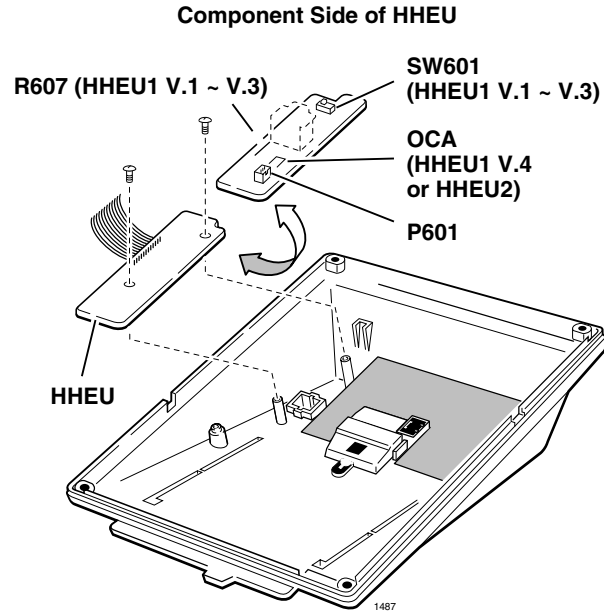

Figure 11-32 HHEU Installation
**Note** For this to function properly with headsets, make sure the speaker OCA strap or R607 is cut on the HHEU PCB and the HHEU strap is cut on the telephone. (See Figures 11-32, 11-34 and 11-35).